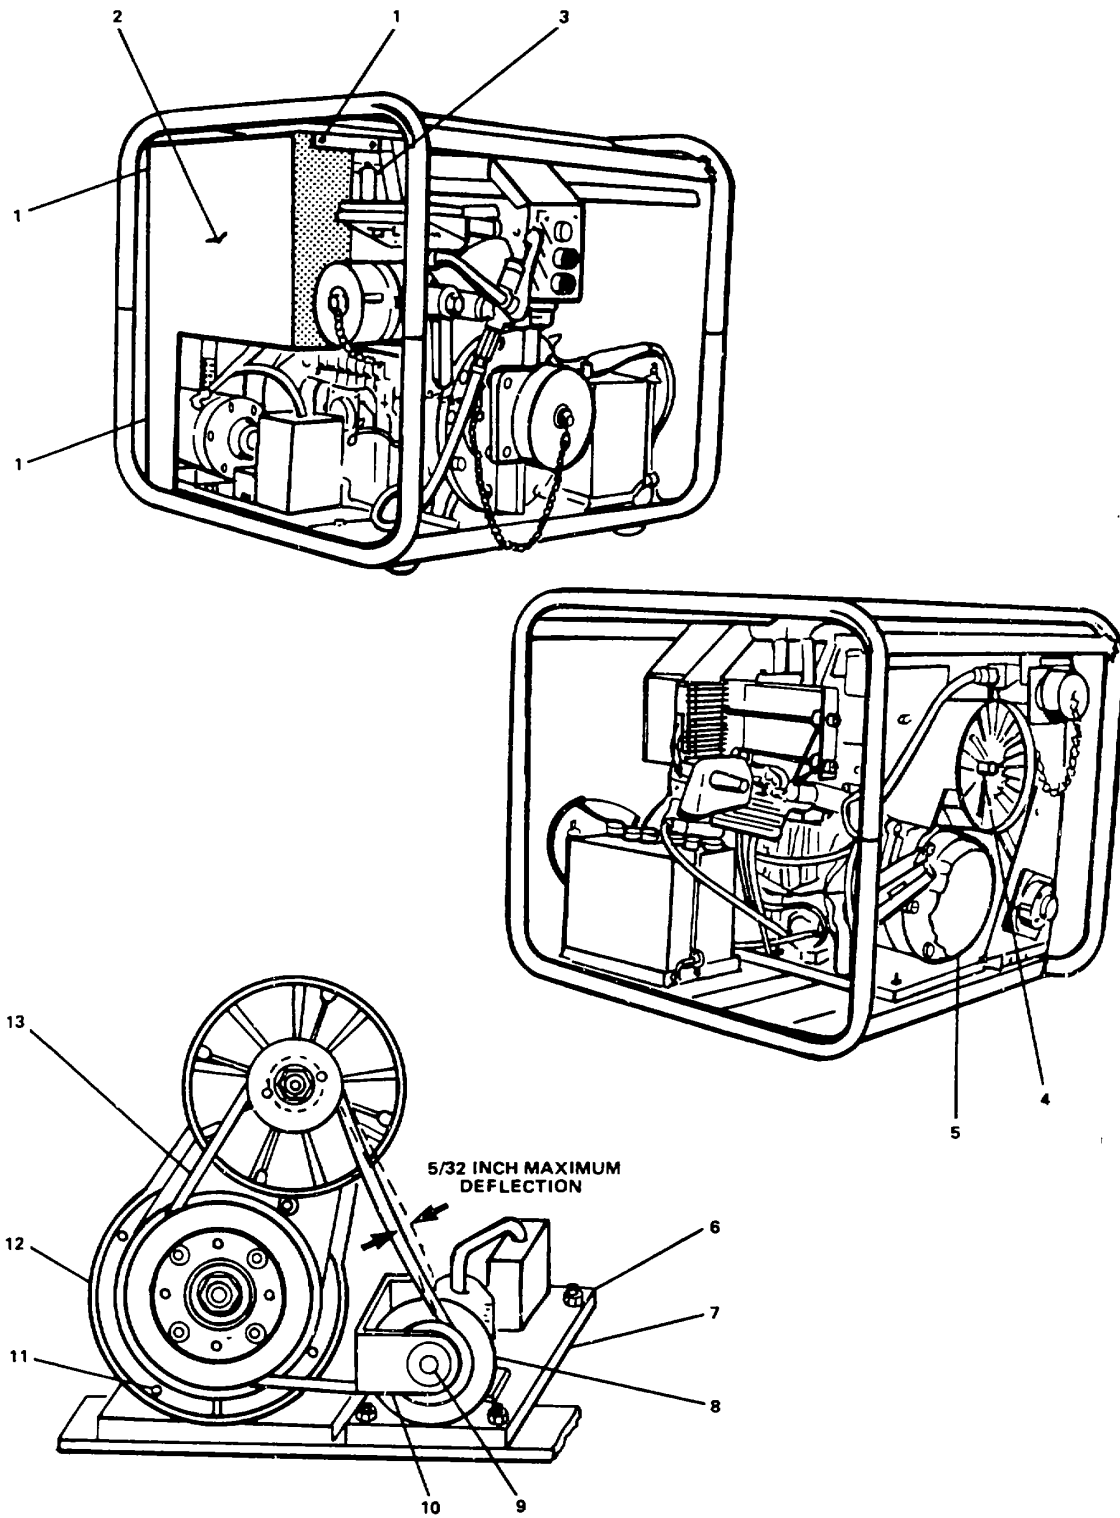
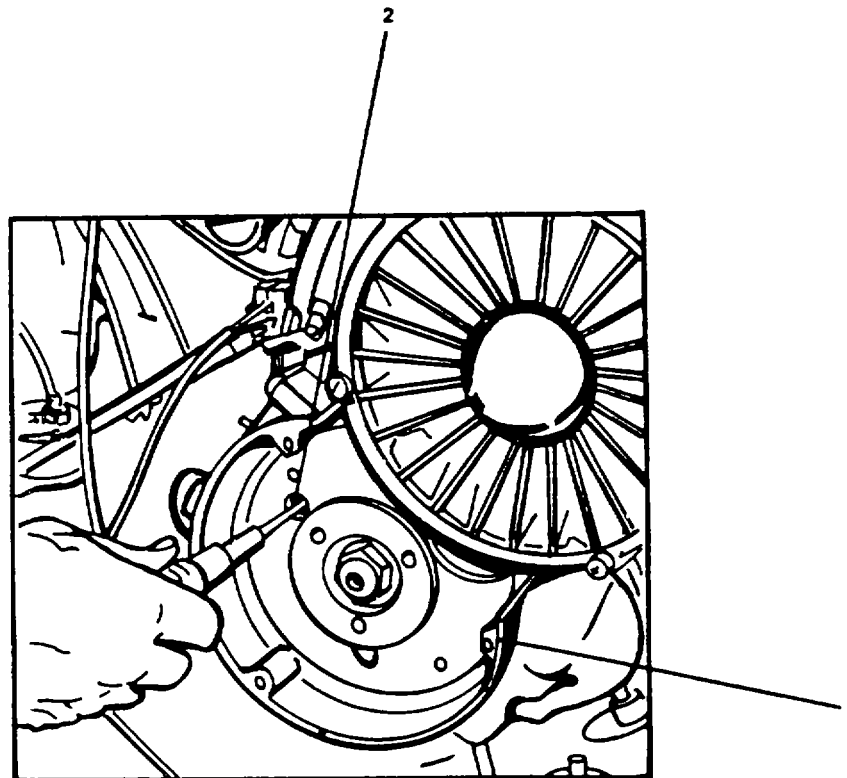

Figure 2-121. Fan Belt Tension Adjustment.
Figure 2-123. Ignition Timing.
- a. Remove three nuts (1, Figure 2-121) and remove fan belt guard (2).
- b. Remove four screws from fan cover (4).
- c. Loosen four bolts (6) on priming pump mounting bracket (7).
- d. Loosen two bolts (9) on priming pump stabilizer bracket (10).
- e. Slide priming pump (8) out to tighten fan belt (13).
- f. When fan belt deflection is 5/32 inch, tighten four bolts (6) on priming pump mounting bracket (7) and two bolts (9) on priming pump stabilizer bracket (10).
- h. Replace fan cover (4) and fan belt guard (2).
- a. Remove spark plug wires (3) from spark plugs.
- b. Remove retractable starter (5, Figure 2-121) by remounting three hex bolts.
- c. Unscrew and remove three hex head bolts (11) and remove starter pulley (12).
- d. Twist fan belt (13) out of the way.
- e. Loosen the stator assembly (1, Figure 2-123) mounting screws (2) through the holes in the flywheel.
f. To correct timing, rotate the stator assembly (1) as required (clockwise to retard the timing; counterclockwise to advance the timing).
g. Tighten stator assembly (1) mounting screws (2).
h. Replace fan belt (16).
i. Replace starter pulley (12, Figure 2-121). Secure with three hex head bolts (11).
j. Replace retractable starter (5). Secure with three hex head bolts.
k. Replace spark plug wires (3).